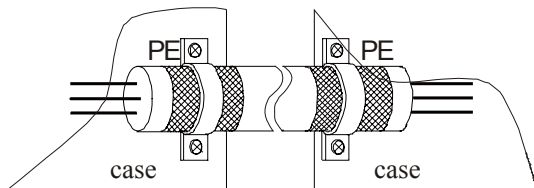

Fig. 3-23 Correct Grounding Method
- (1) Wire from inverter to motor (outlet of terminal U, V and W) shall not be parallel to the power line (inlet of terminal R, S, T, or R, T) and shall be kept over 30cm away from the power line.
- (2) 3 motor lines of the inverter output terminal U, V and W shall be kept in metal pipe or metal wireway.
- (3) Control signal line shall be shielded type with the shielded wire mesh connected to metal case through cable clips on both sides, shown in Fig. 3-23: